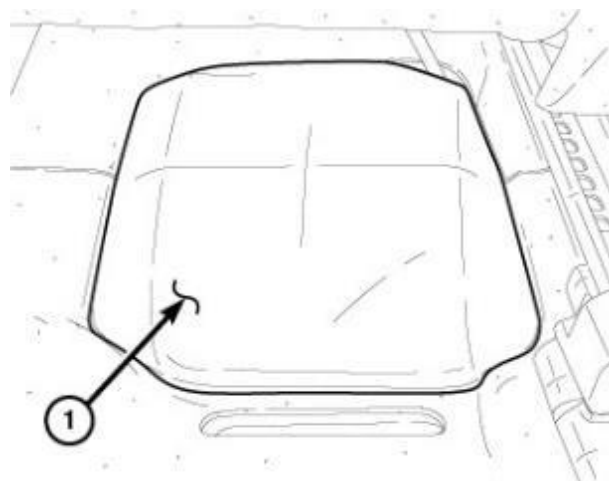

Figure 10 – Battery Cover
3. Remove the battery cover (1) (Figure 10).